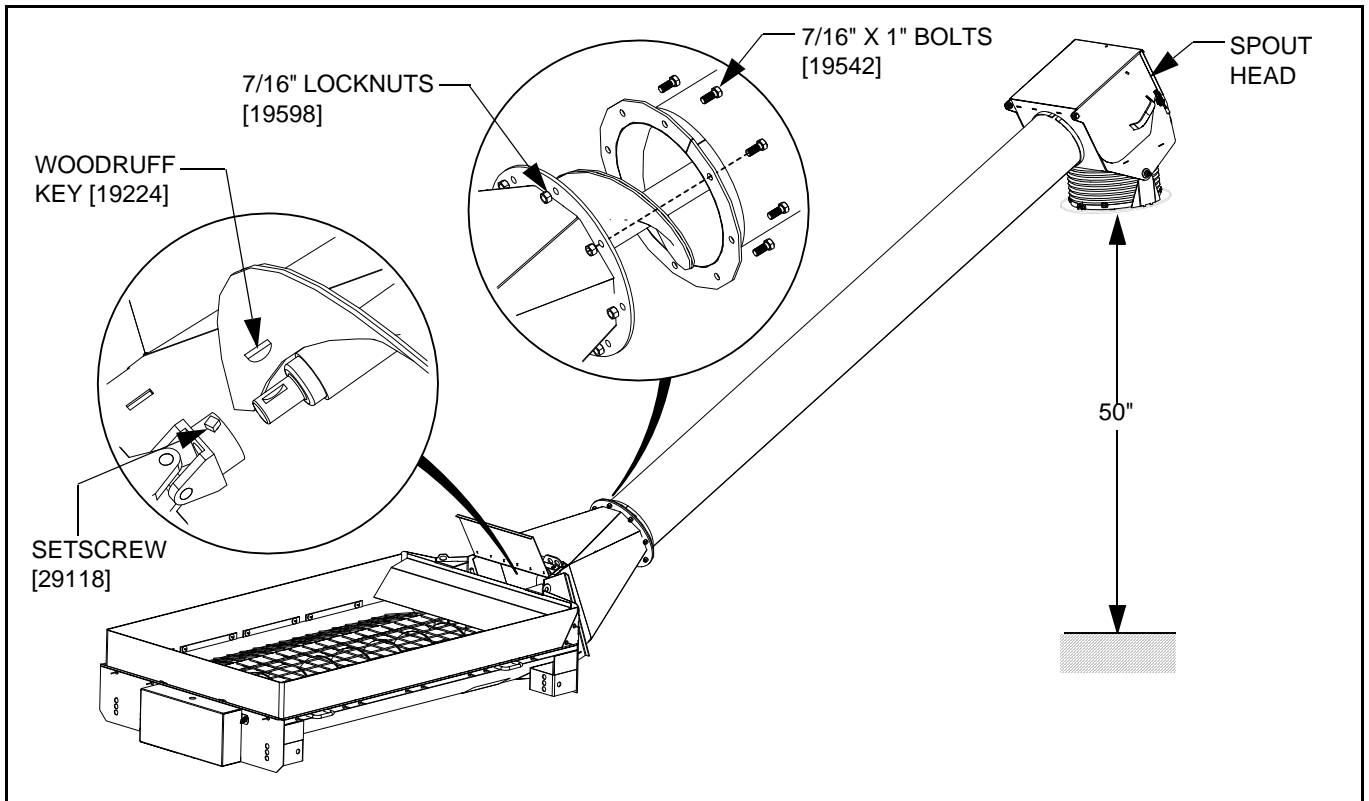

Figure 2
4. Open the access door on the transition, then bring the tube and transition together guiding the flight shaft into the u-joint (see Figure 2).